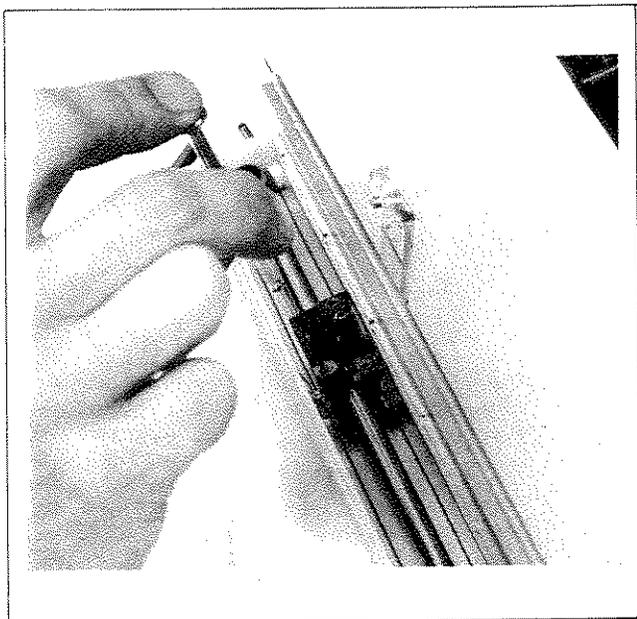

Figure 8-9. Y-Axis Wiper Replacement
8-65. The wiper assembly is located on the Y slider block inside the recording arm. See Figure 8-9. To remove, perform the following steps:
- e. Remove wiper assembly. Wiper assembly held by one screw. See Figure 8-9.